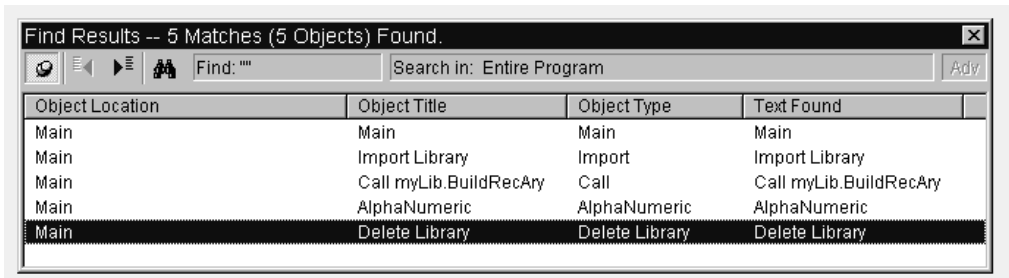

Figure 14.14. The Find Results dialog box
17. Click Find; it is on the right side of the Dialog Box. The results of the search are the objects listed in Figure 14.14. (If you find it necessary, examine its HELP first.)